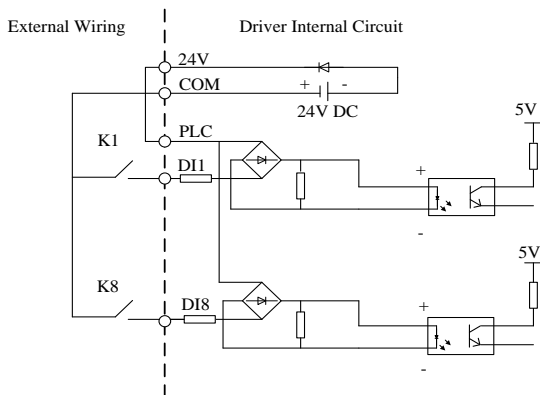

Fig. 2-1 Connection Mode Using Internal Power Supply Switch Control
1) Connection mode using a 24V internal power supply of the servo driver, and adopting switch control is as shown in Fig. 2-1 (Note: Connecting wire between PLC and 24V terminal shall be reliably connected).